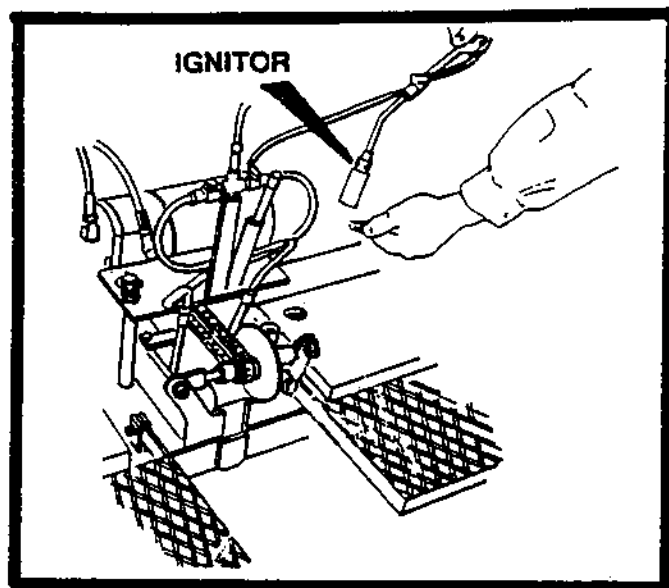

FIGURE 7
3. Light ignitor as you open the ignitor valve. See figure 7.